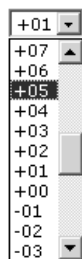

Figure 94. Gain Drop Box
4. Click the **Input Audio Level (dB)** drop box. A drop down scroll box appears (see figure 94).